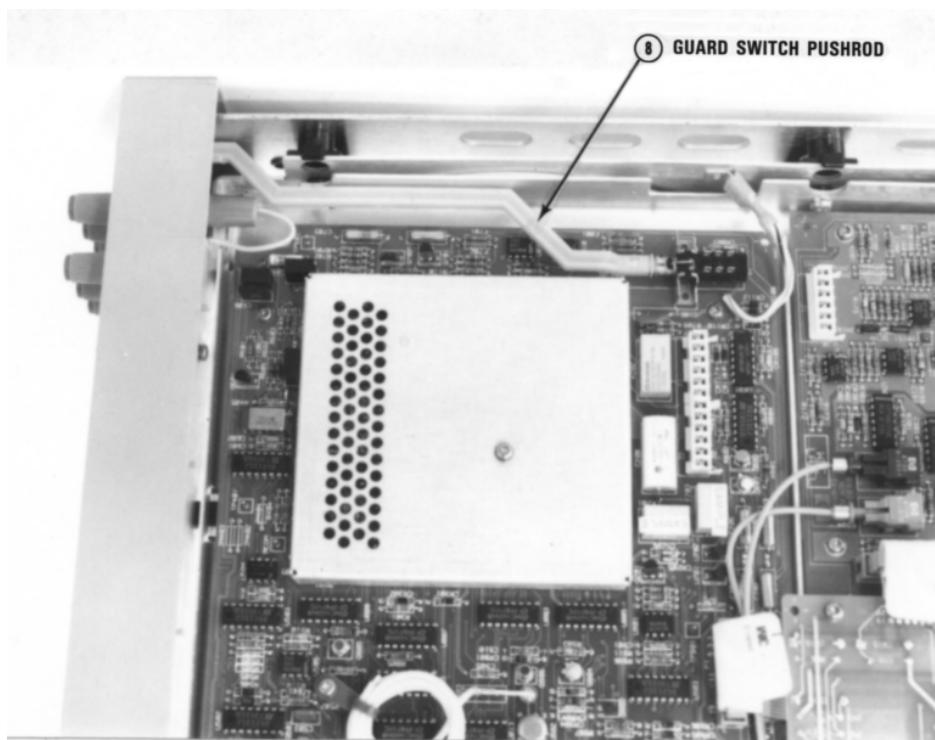

Figure C-6 Guard switch and pushrod location
- 2** Refer to Figure C-6, Locate the pushrod for the Guard switch. Pull the pushrod off. You may need to pry the pushrod loose with a small flat blade screwdriver. Set the switch in the position it is to be used.